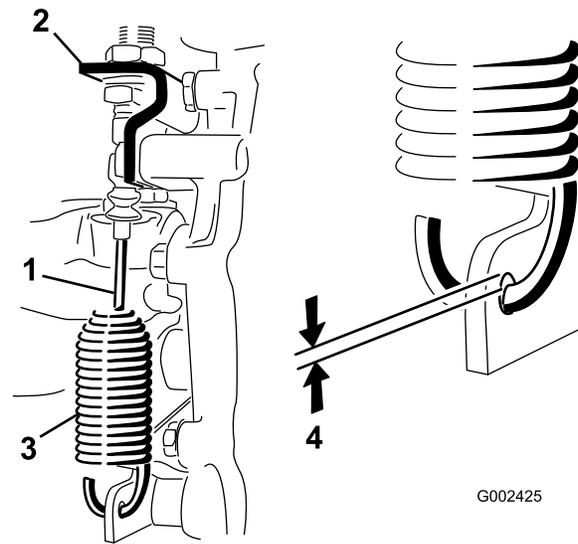

Figure 47
2. Loosen the jam nuts securing the differential-lock cable to the bracket on the transaxle (Figure 47).